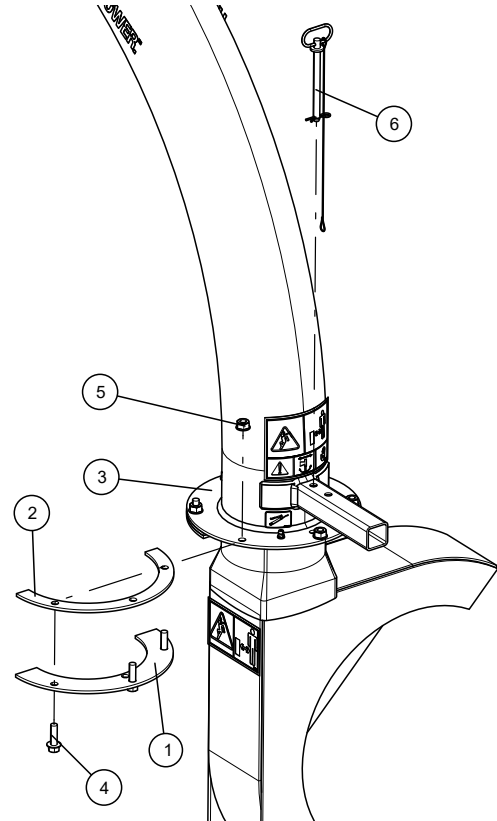

Figure 2.4.2, Attach Clamp Ring and Spacer
3. Attach one handle side clamping ring (1) and one spacer ring (2) to discharge tube base (3) using three 3/8 × 1-1/4" bolts (4) and nylock nuts (5). Tighten leaving 1/16" gap to assist in mounting to flange. (See Figure 2.4.2.)
4. Slide the tube onto the mounting flange on the chipper frame. The discharge clamp (1) should slide underneath the lip of the flange. Tighten the bolts and nuts to secure it.
5. Attach lanyard with discharge pin (6) as shown in Figure 2.4.2. Loop on lanyard installed below nut located under discharge handle.